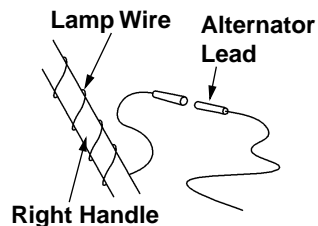

**Figure 10**
- Thread one hex nut (D) onto the eyebolt on the chute crank assembly until there is at least two inches of threads showing between the nut and the head of the eyebolt. See Figure 10.
- Place the eyebolt into the hole located half way up the left handle. Secure with cupped washer (N) (cupped side against the handle, see inset, Figure 10) and hex nut (D).